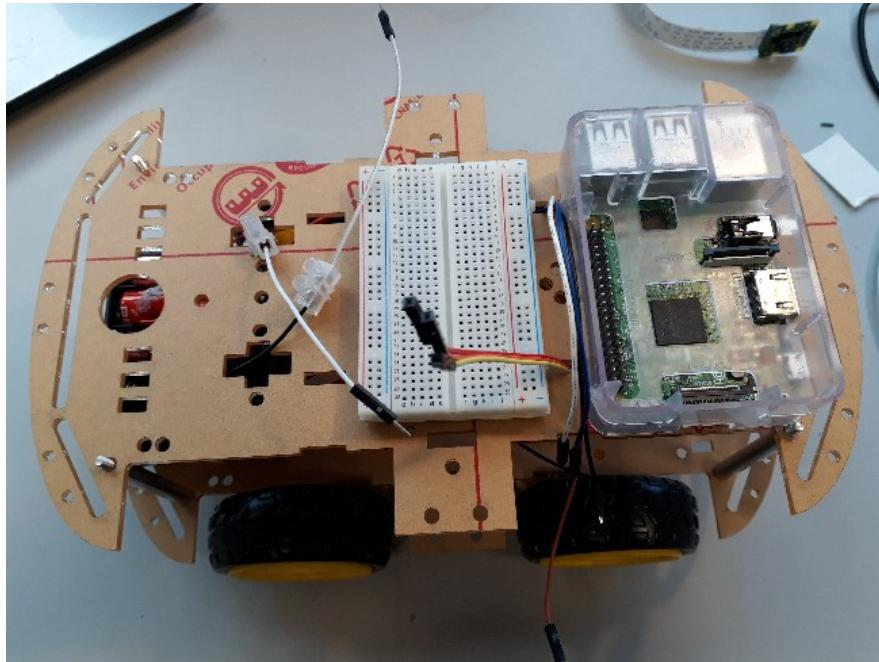

Figure 21: Top plate with all components attached in correct positions
Step 18: With the top plate in position, attach the remaining components (raspberry pi, breadboard) using the double-sided sticky pads. The components must be attached in the orientation shown in figure 21. **Note: Only use a 1cm² of sticky material, or it will be very hard to dissemble the buggy later on.**